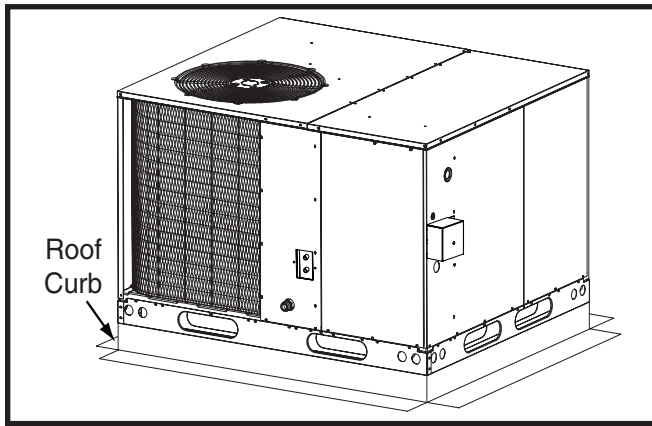

Figure 3. Roof Top Installation
- The appropriate accessory roof curb (Figure 3 (page 6)) should be installed prior to unit installation. The roof curb must be square and level to ensure proper condensate drainage. **Please follow all instructions provided with the kit.**